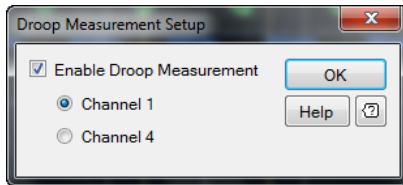

Figure 2-129 Droop measurement Setup dialog
- 2 The Droop Measurement Setup dialog is displayed as shown in Figure 2-129.